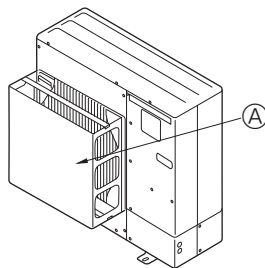

Fig. 2-4
- ② Install an optional air guide if the unit is installed in a location where strong winds from a typhoon, etc. may directly enter the air outlet. (Fig. 2-4)
- ④ Air outlet guide